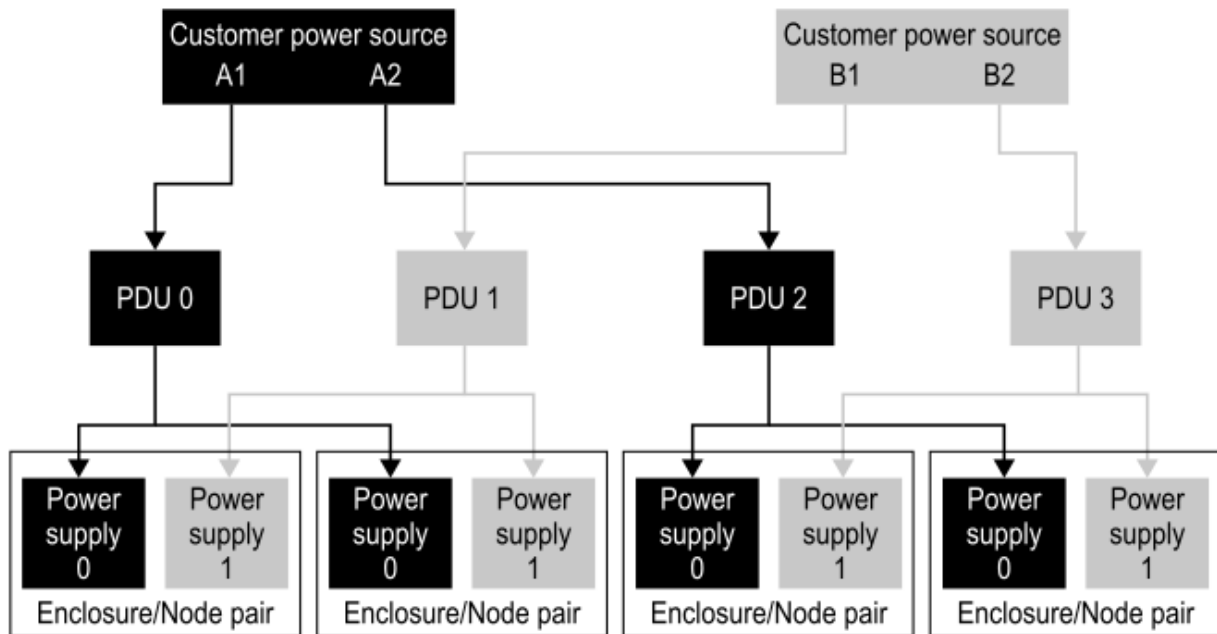

Figure 21: Redundant power configuration
**For example**, as represented in **Figure 21: Redundant power configuration** on page 35: